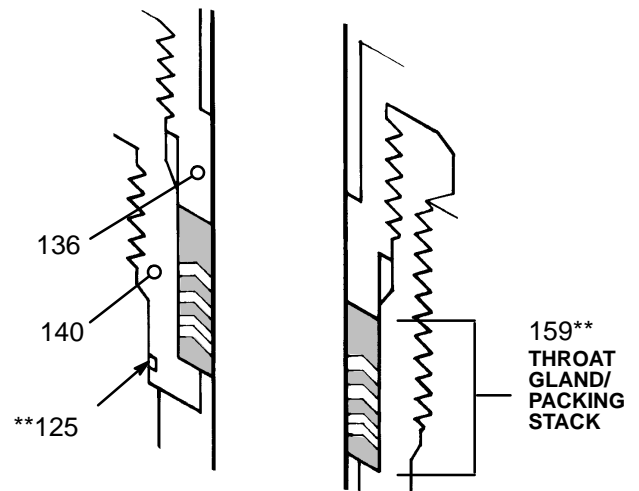

Fig 4
2. Unscrew the coupling nut (9) and the tie rod locknuts (3). Remove the cotter pin (1), loosen the jam nut (5), and unscrew the connecting rod (11) from the displacement rod (108). Pull the displacement pump away from the motor.
3. Place the pump housing (109) in a padded jaw vise with the outlet (107) against one jaw.
4. Remove the packing nuts (136 and 140). Remove the throat packings (159) from the nut (140). See Fig 4.
5. Push the displacement rod (108) until the priming piston (119) clears the intake cylinder (117).
6. Use two wrenches to oppositely turn and loosen the hex nuts (120) on the piston rod (122).
7. Remove the valve plate (118), valve guide (121), and the priming piston (119).
8. Remove the intake cylinder (117) and o-ring (124).
9. Pull on the piston rod (122) to remove the displacement rod (108) from the pump housing (109).
10. Remove the cotter pin (126) and unthread the piston rod (122) from the piston valve (112).
1. Place an o-ring (125\*\*) on the packing nut (140). Screw the packing nut into the pump housing (109).
2. Refer to Fig 4. The gland/packing stack (159\*\*) for the throat is preassembled. **Untie, but DO NOT disassemble the stack.** Place the stack into the packing nut (140). *Be sure the lips of the v-packings are facing down.*
3. Place an o-ring (102\*\*) in the groove of the packing nut (136). Loosely install the packing nut (136) into the pump housing (109).